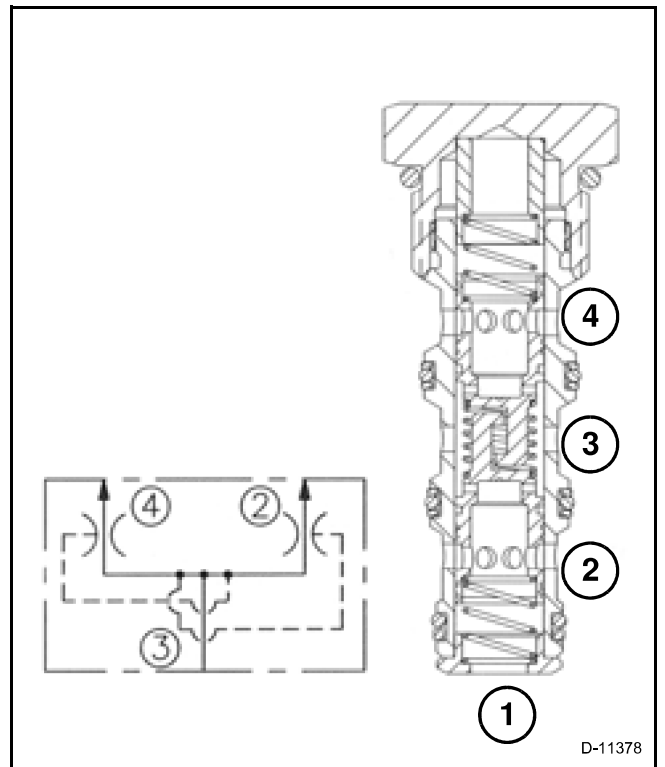

FIG. 161
FIG. 161: The flow divider valve is a screw-in, cartridge-style, spool-type flow divider. In the dividing mode, the cartridge valve will divert the input flow from the port 3 (3) to the ports 2 (2) and 4 (4) in a 50:50 ratio, regardless of the operating pressure.